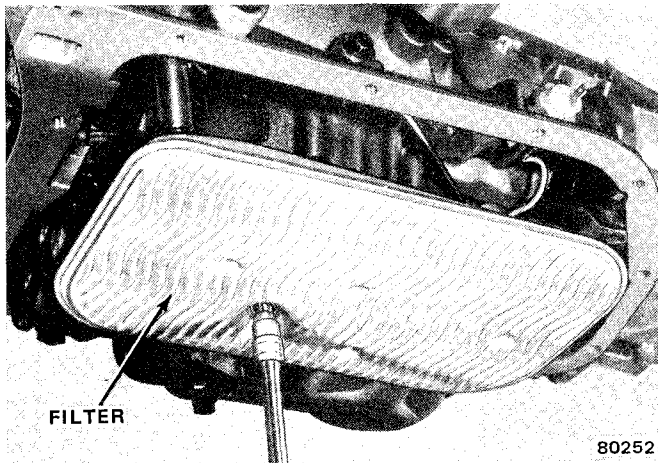

Fig. B-13 Removing Automatic Transmission Filter
- (1) Remove transmission pan screws, pan, and gasket.
- (2) Remove and discard oil filter (fig. B-13).